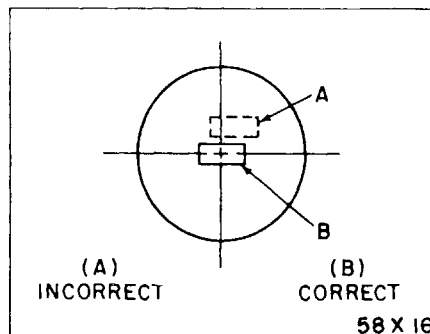

Fig. 14—Lever Alignment
With proper cable adjustment assured and N (neutral) button depressed, make certain that switch lever is properly aligned in center of neutral starting switch hole (Fig. 14). With test leads connected to battery current and terminal of the switch, screw switch into transmission case until test light lights, then turn switch
(1) Remove the neutral starting switch and check the location of the neutral starting switch lever inside the transmission, as illustrated in Figure 14.